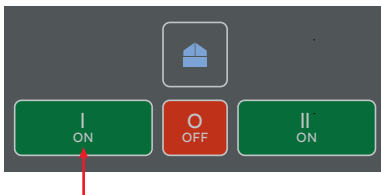

Fig. 3.36 If the power supply of Bypass switch is Source 1, the ATS position will be the same as Bypass switch by pressing "I ON" button in HMI of ATS
- Operate Bypass switch to OFF-position as shown in the Fig. 3.36.